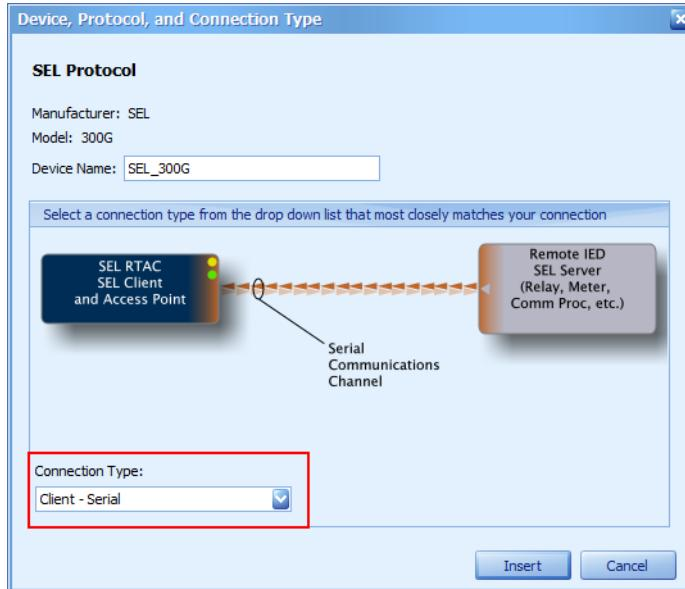

Figure 158 Add an SEL-300G
Step 9. For a serial connection, set the **Connection Type** to **Client – Serial** in the window that appears, as shown in *Figure 158*. Select **Insert**.